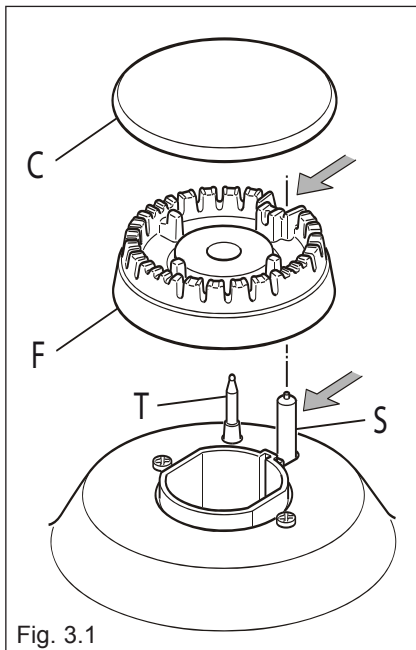

Fig. 3.1
- Check that the probe "T" (figs. 3.1, 3.3) next to each burner is always clean to ensure correct operation of the safety valves.
- Check that the electrode "S" (figs. 3.1, 3.3) next to each burner is always clean to ensure trouble-free sparking.
It is very important to check that the burner flame spreader "F" and the cap "C" have been correctly positioned (see figs. 3.1 and 3.2). Failure to do so can cause serious problems.